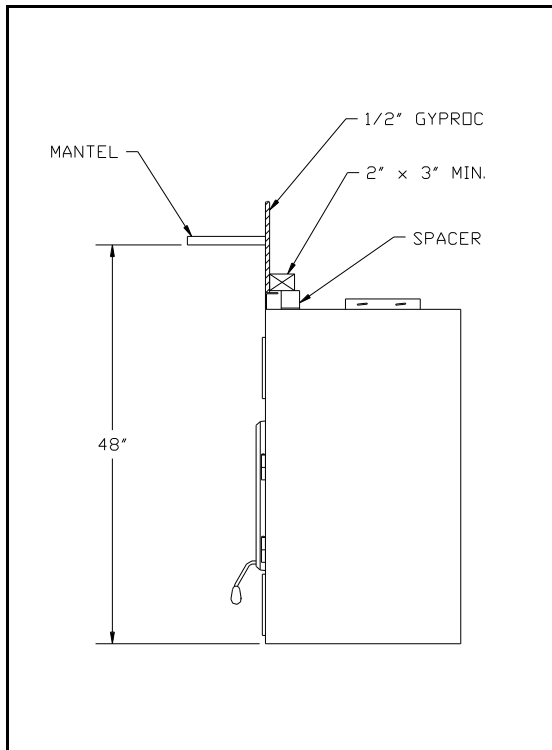

Figure 12
1. Combustible wall (such as Gyproc) must be installed flush with the fireplace. It may not project in front of and on the fireplace (i.e. the steel façade of the fireplace) (fig. 12)
The mantel must be installed at least 48" (1016 mm) above the base of the fireplace (figure 12).